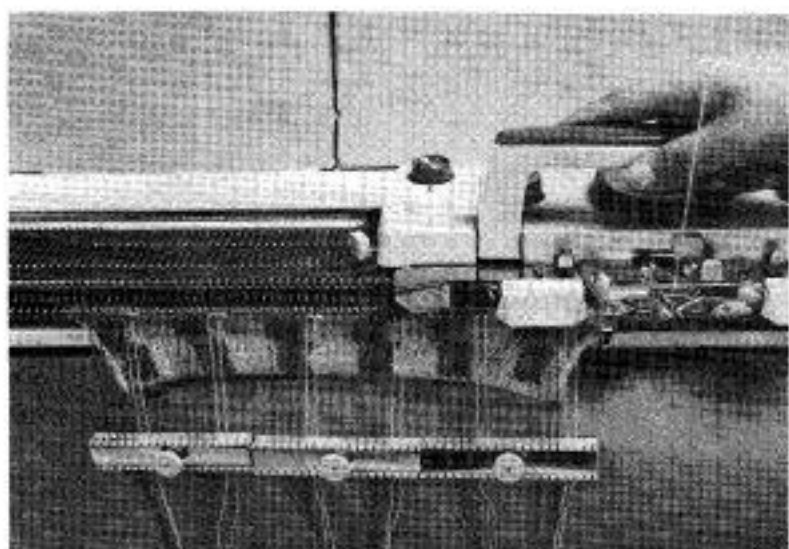

Fig. 157
- (i) Hook each strand onto its adjacent needle **on the right** and continue to knit until the 11th row. (Fig. 157)